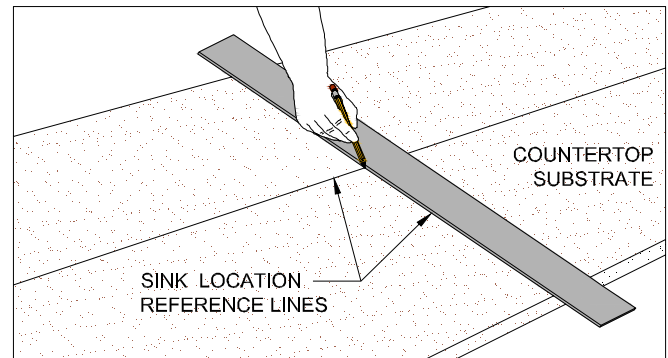

Figure 19A
- Pencil the sink location on the substrate with a vertical and horizontal cross hair. (FIG. 19A)